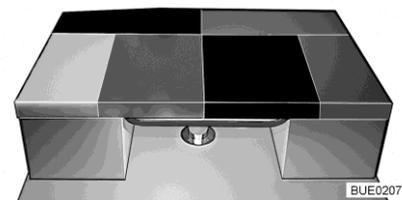

Fig. 155 After conversion
- Place the additional cushion on the table (see Fig. 155). When doing this, put the angled cushion side of the in touch with the lateral seat of the L-seating group.